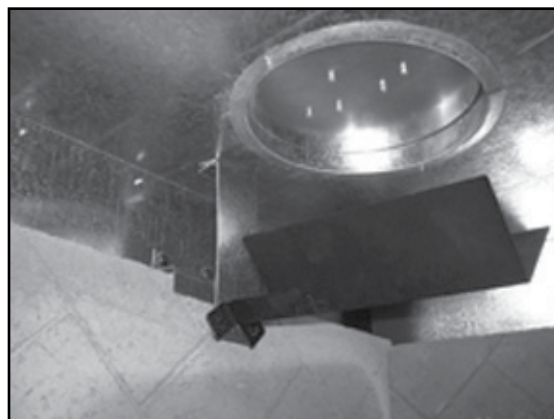

Figure 2
1. Look inside fireplace opening and locate (2) screws in roof of interior firebox. Remove screws and position Downdraft Diverter as shown in Figure 2. Attach Diverter with (2) screws removed earlier.